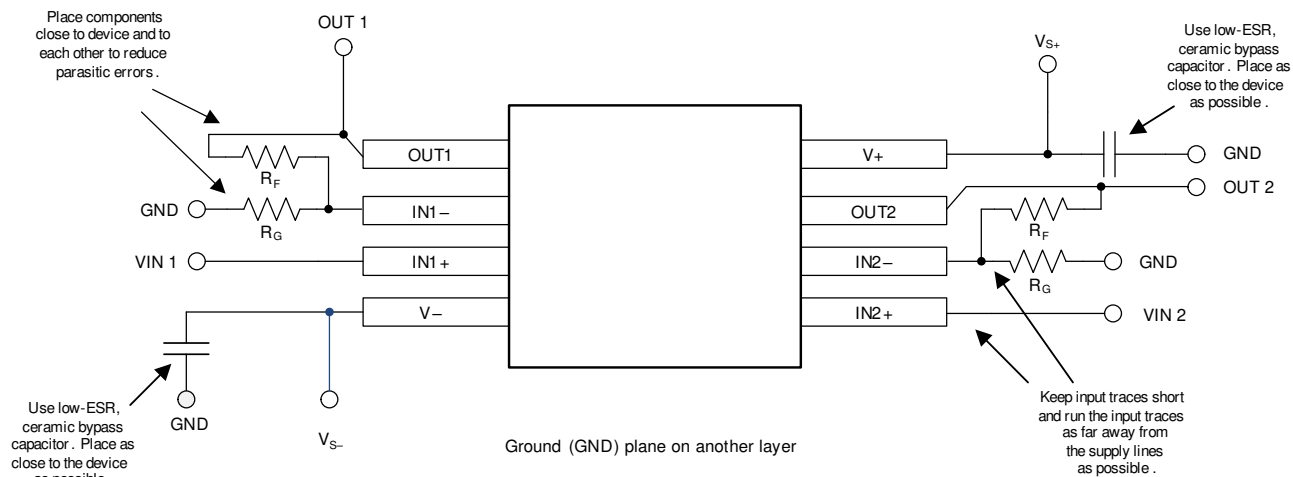

Figure 68. PCB Layout Example
- Use bypass capacitors to reduce the noise coupled from the power supply. Connect low ESR, ceramic, bypass capacitors between the power-supply pins (V+ and V–) and the ground plane. Place the bypass capacitors as close to the device as possible with the 100-nF capacitor closest to the device, as indicated in Figure 68. For single-supply applications, bypass capacitors on the V– pin are not required.
- Place the external components as close to the device as possible. As illustrated in Figure 68, keeping RF, CF, and RG close to the inverting input minimizes parasitic capacitance.